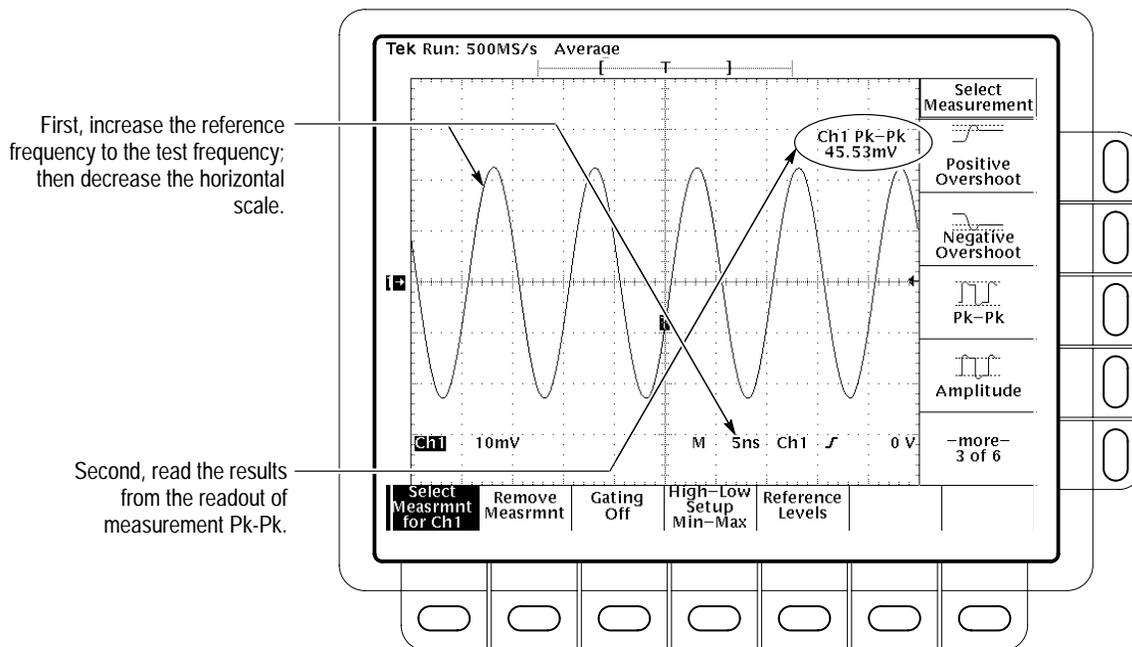

Figure B-4: Measuring analog bandwidth
13. Check that the **Pk-Pk** readout on screen (as shown in Figure B-4) is  $\geq 42.5$  mV.